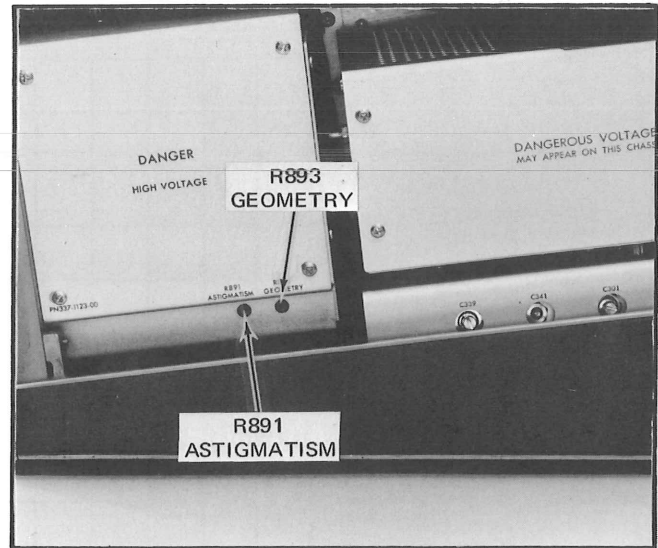

Fig. 1-3. Location of adjustments in step 4.
d. ADJUST—R891, ASTIGMATISM adjustment on the left side of the instrument (see Fig. 1-3), if spot is not circular.
w. ADJUST—R893, GEOMETRY adjustment on the left of the instrument (see Fig. 1-3), for minimum bowing of trace.